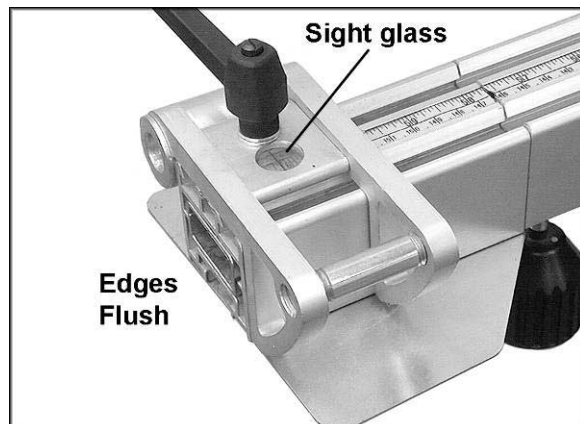

Figure 31
3. The scale on the telescopic extension of the fence should now be checked and adjusted. Move the other stop to the outermost edge of the extension fence until the edge of the stop is flush with the edge of the fence (Figure 31). Lock the stop in position by tightening the handle.